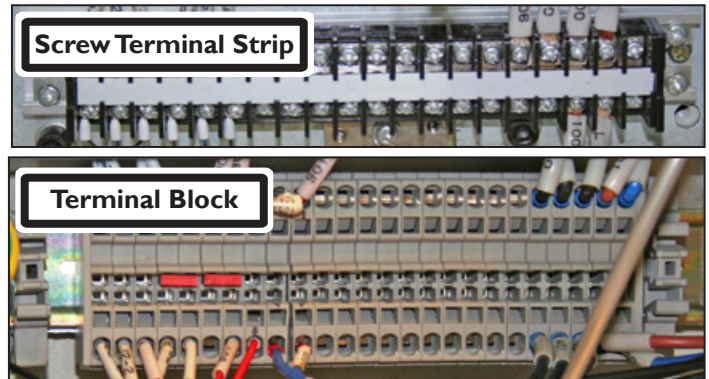

Figure 13
1. Older machines are equipped with a Screw Terminal Strip, while newer machines have a Terminal Block. Identify the connection type in electrical cabinet specific to your machine as shown in **Figure 13**.